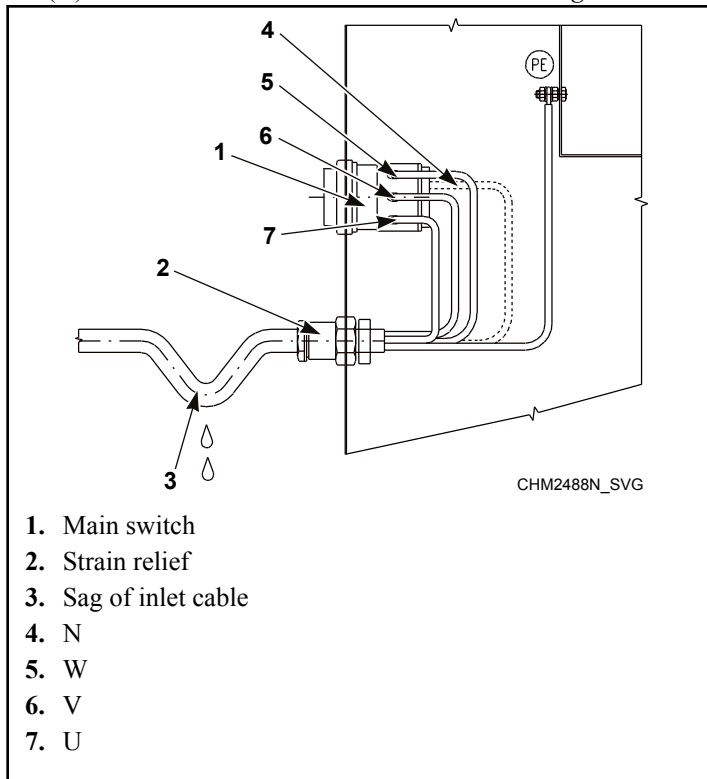

Figure 22
5. Connect the supply cable conductors to the incoming terminals (main switch [1]), marked with L1/U, (L2/V), (L3/W), (N) and the terminal marked with PE. Refer to *Figure 22*.
Provide a sag in the cable, in front of the strain relief. This will prevent condensed water from dripping into the machine. Refer to *Figure 22*.